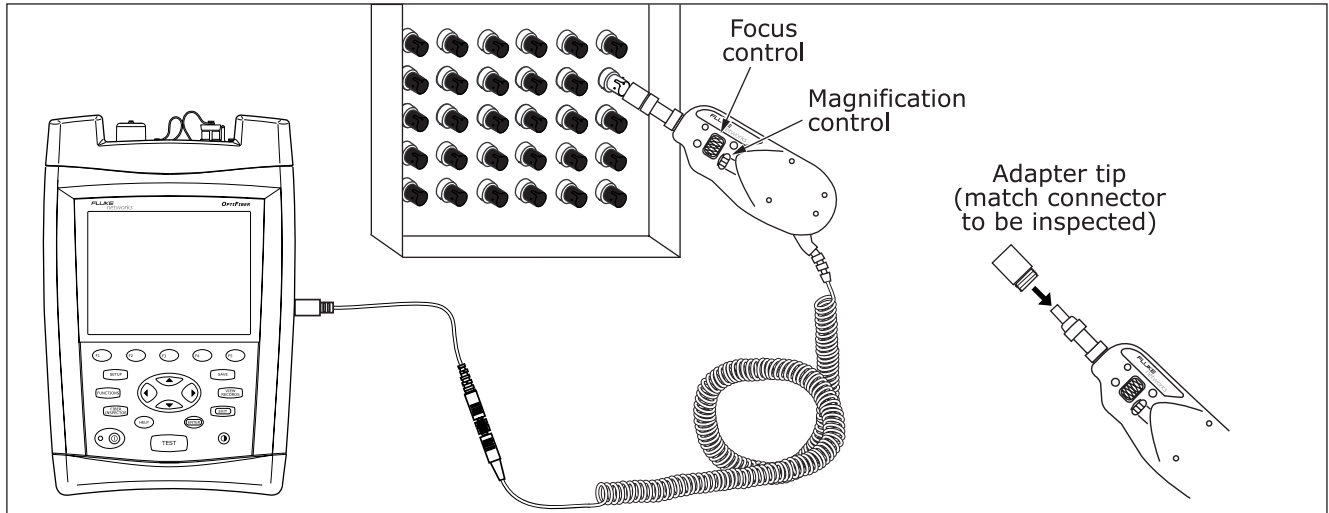

Figure 18. Using the FiberInspector Probe
- 6 Place the probe on the fiber connector. Turn the larger ring on the probe to focus the image. Turn the smaller ring to change magnification. Refer to Figure 18.